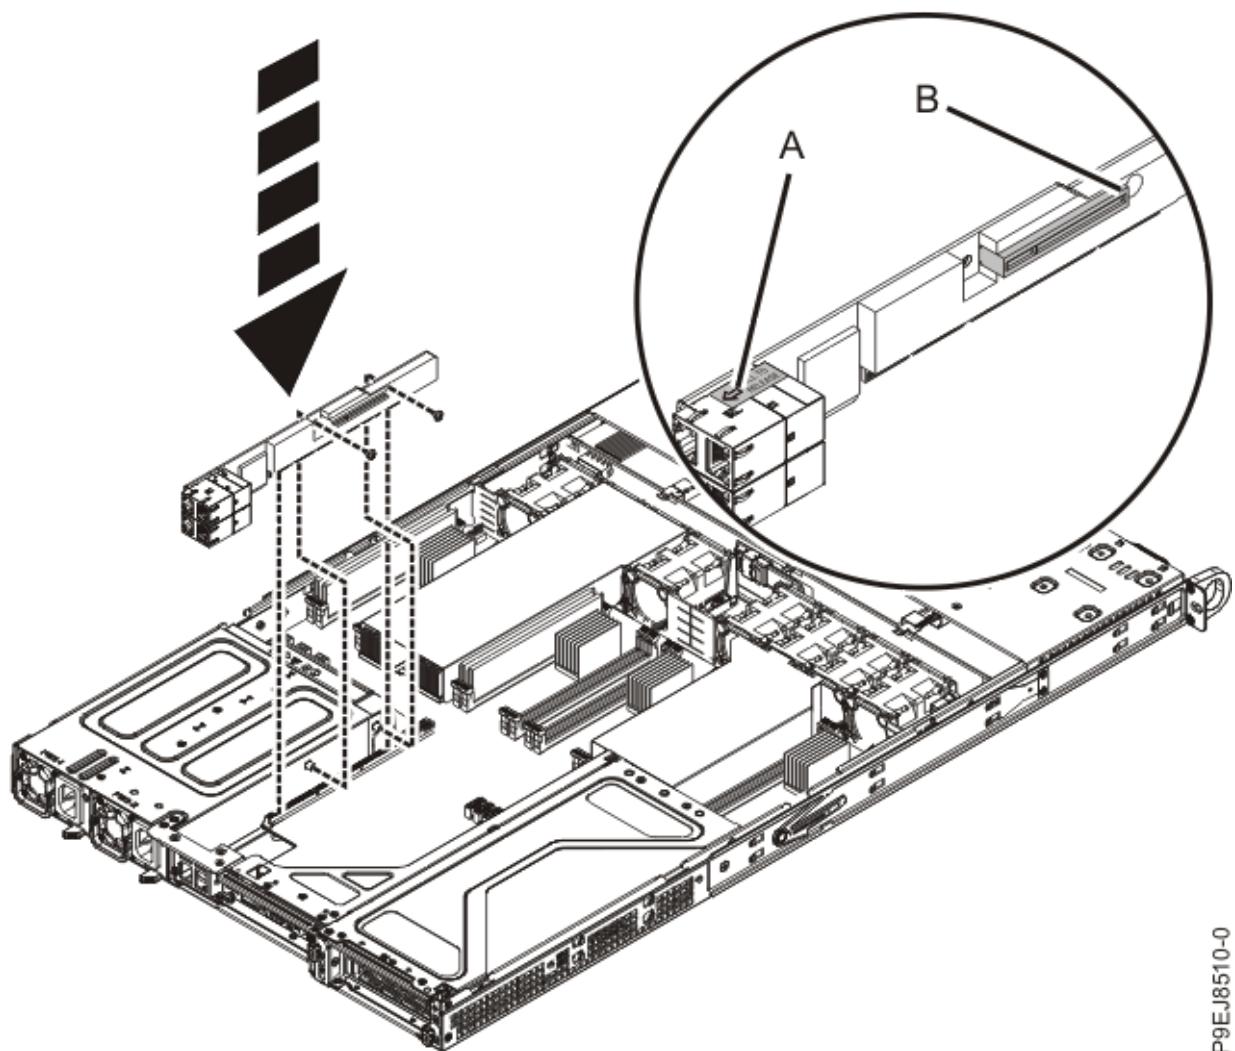

Figure 28. Replacing the PCIe adapter riser screws
- b) Replace the two screws to secure the PCIe riser card to the chassis as shown in Figure 28 on page 31.